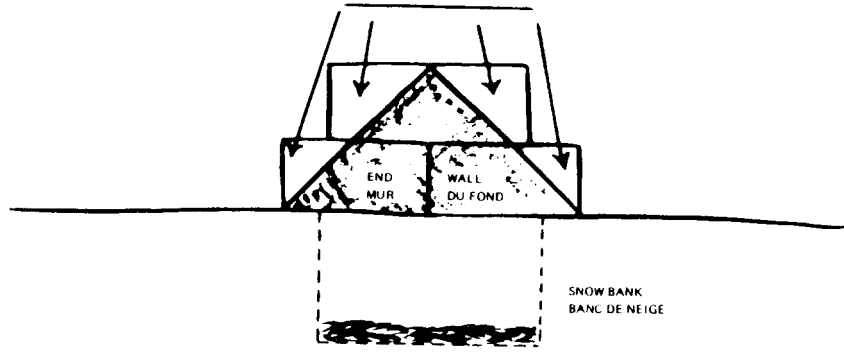

Figure 3-22 Snow House - Stage 2
- c. To close in the roof, use as many snow blocks as required to build up the ends. Trim these ends to a sharp peak (see Figure 3-22).